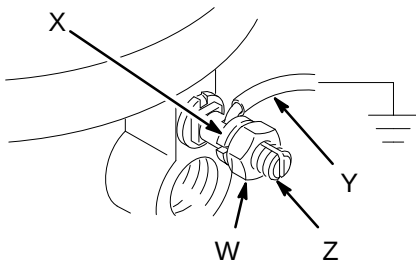

Fig. 1 _____ 0720
- *Pump:* Use a ground wire and clamp as shown in Fig. 1. Loosen the grounding lug locknut (W) and washer (X). Insert one end of a 12 ga (1.5 mm²) minimum ground wire (Y) into the slot in lug (Z) and tighten the locknut securely. Connect the other end of the wire to a true earth ground.